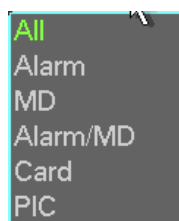

Figure 4-40
- z Picture backup: Please set the corresponding time, channel and then select the type as PIC from the dropdown list. See Figure 4-40. Please click the Add button and then select the pictures. Click the Start button; you can copy the specified pictures to the selected portable devices.